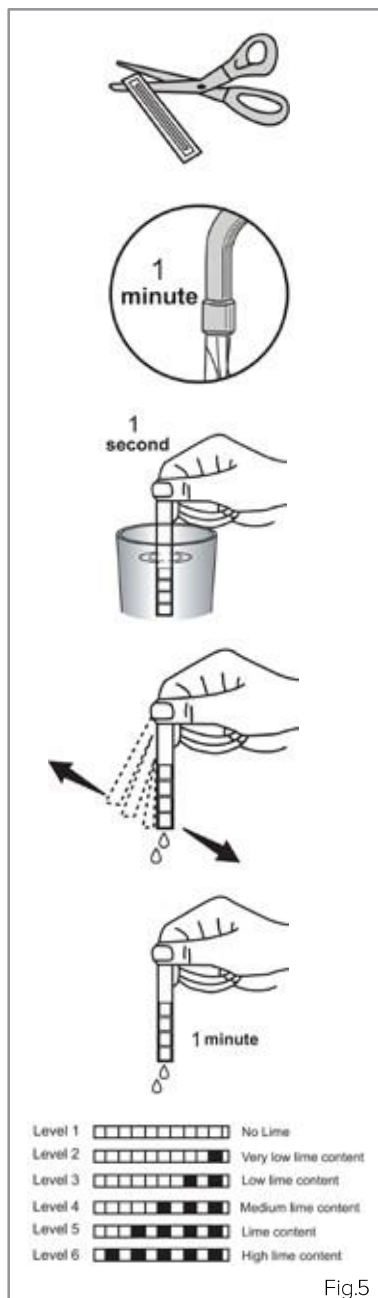

Fig.5
- Open the testing strip (figure 5).